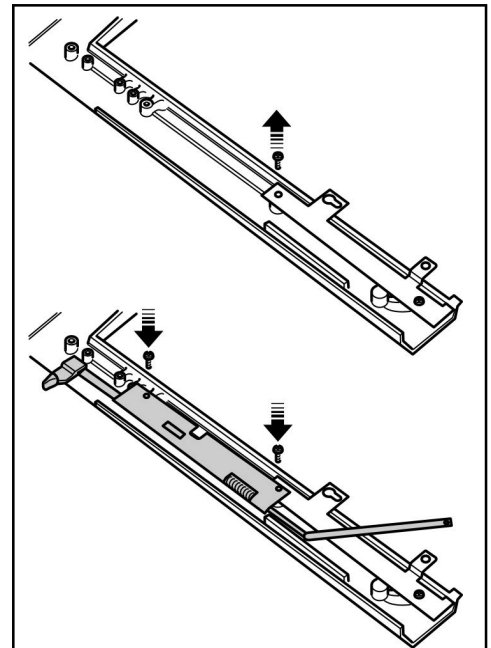

Figure 30. Attaching slider control to Heritage fascia
1. The fascia is supplied with two brackets secured at the bottom. Lie the fascia face down and remove the upper screw from the left hand bracket (See figure 30).
2. Attach the slider control to the rear of the fascia using 2 'countersunk taptite' screws (See figure 30).